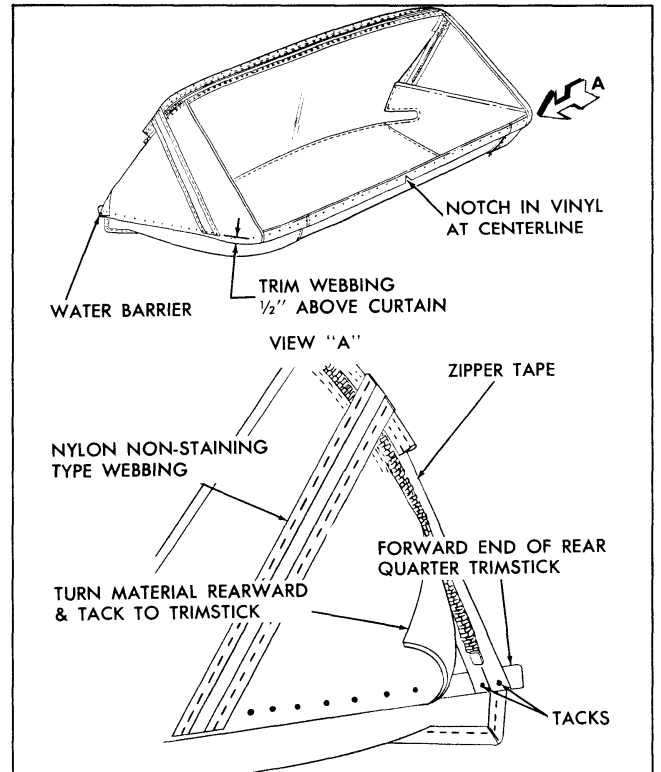
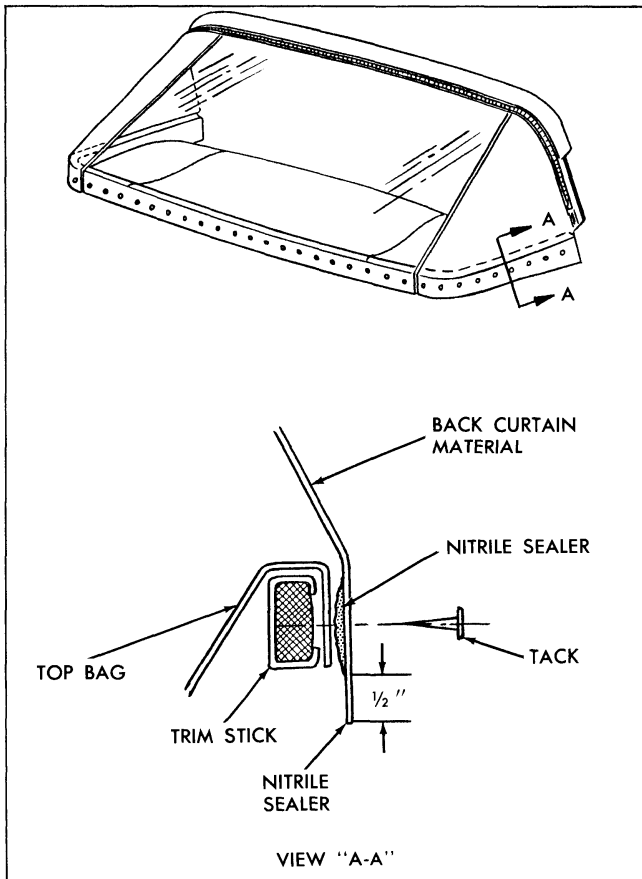

Fig. 22-40 Back Curtain Installation
Fig. 22-39 Back Curtain Sealing
6. Place back curtain window assembly on clean covered work bench with exterior (vinyl) surface of back window valance facing down. (Large pliable back window must be handled carefully to avoid possible damage due to scratches, abrasions, etc.) Apply bead of convertible top sealer (nitrile) along lower edge of back curtain material in area which will be tacked to rear and rear quarter trim stick. (View "A-A" in Fig. 22-39).
7. Apply bead of convertible top sealer (nitrile) along lower selvage edge of back curtain material (Fig. 22-39).
NOTE: Notch in back curtain vinyl at lower edge indicates centerline of back curtain assembly. (Fig. 22-40). In addition on all "Y" styles, back curtain lower edge should extend $1/2"$ below lower edge of trim sticks as shown in view "A-A", Fig. 22-39.
10. Tack curtain to rear and rear quarter trim sticks. On right side, tack zipper tape to forward edge of rear quarter trim stick. ("A" in direction of arrow in Fig. 22-40).
11. Tack remainder of back curtain material to rear quarter trim stick, turning forward edge of material rearward to form a water barrier (Fig. 22-40).
13. Tack nylon webbing to rear trim stick. Forward edge of webbing should be even with edge of rear trim stick. New webbing may be cut from a piece of non-staining type webbing 2" x 19". Excess webbing should be trimmed off at rear trim stick, 1/2" above back curtain lower edge (see Fig. 22-40).